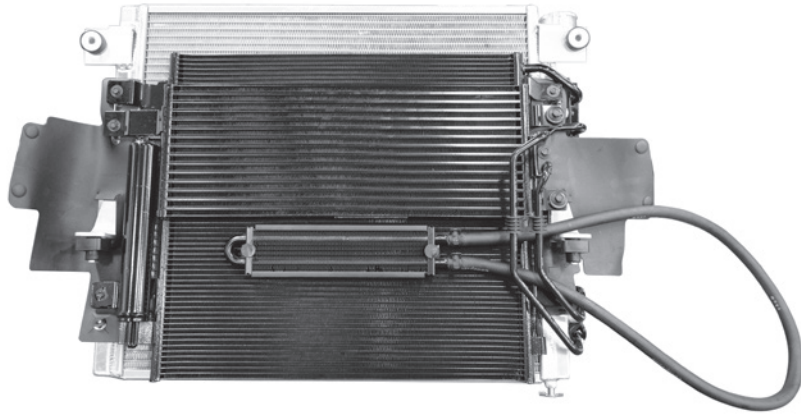

Figure 32
6. Install the supplied power steering cooler. Use the AEV supplied spring clamps NOT the hose clamps provided with the cooler (fig 32).